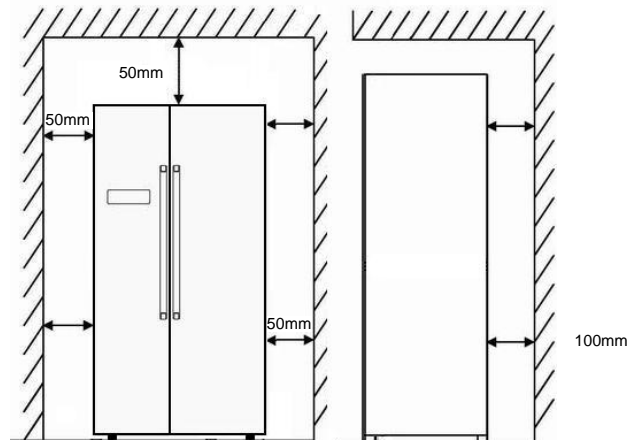

Fig. 1
- Ensure sufficient spacing is provided for the appliance to be installed. Leave space on both sides (50mm), back (100mm) and above the appliance (50mm) to ensure proper ventilation and door opening. See fig. 1 & 2